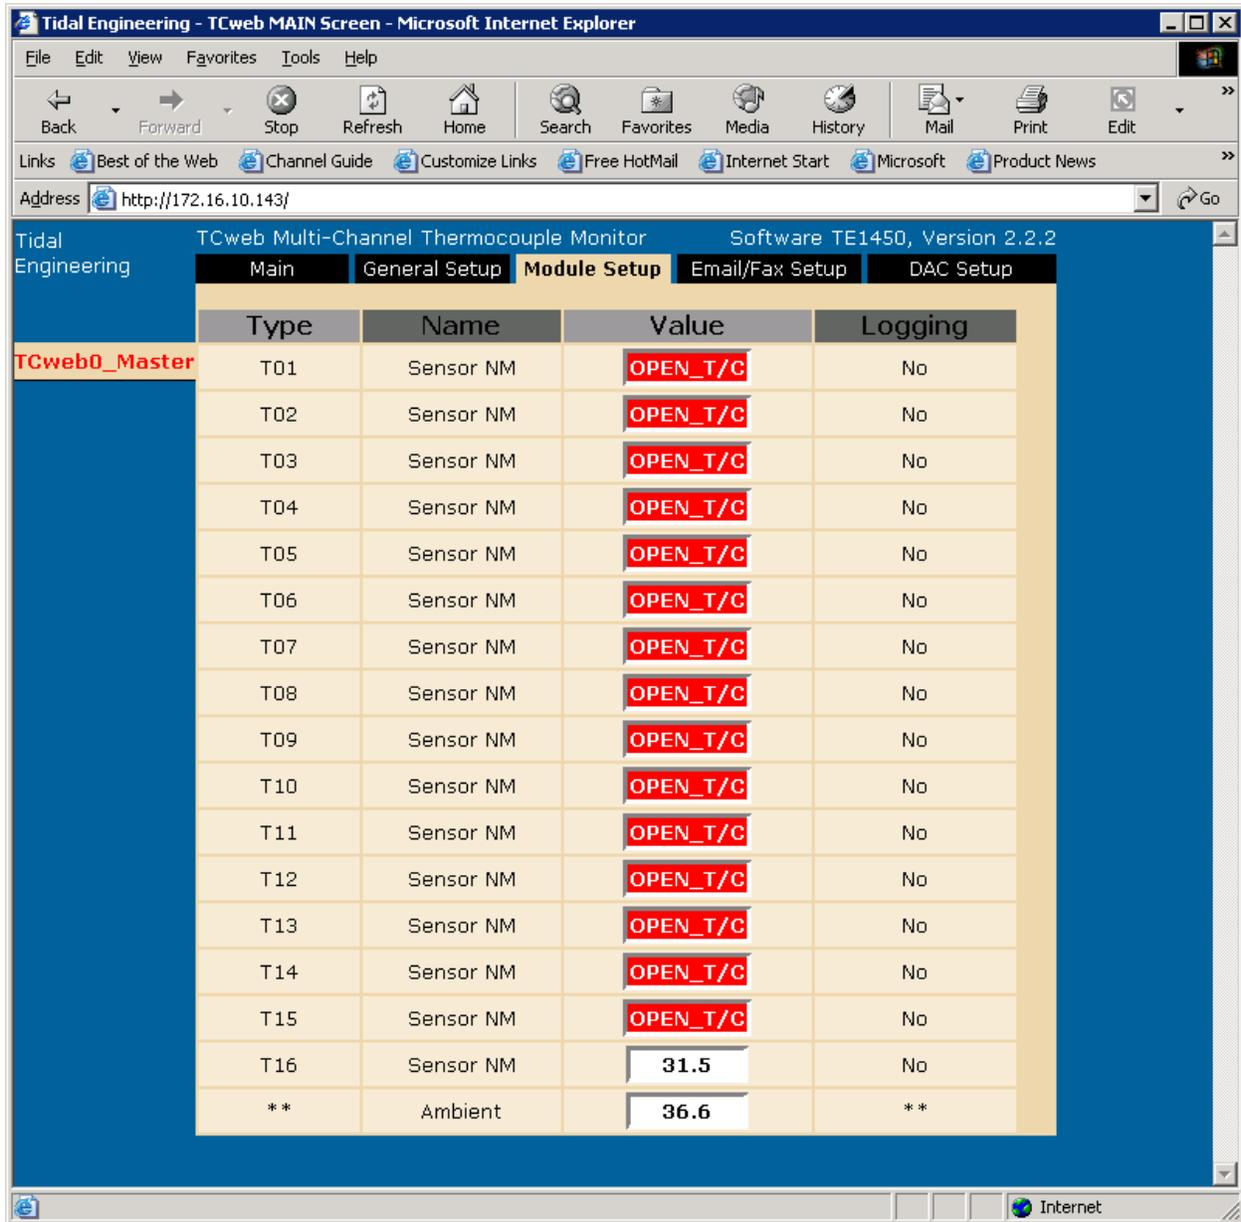

Figure 4 TCweb - Main Screen
9. In the browser window that comes up, you should be able to see what temperature the thermocouple is detecting in the box labeled "T16." See Figure 4 below.